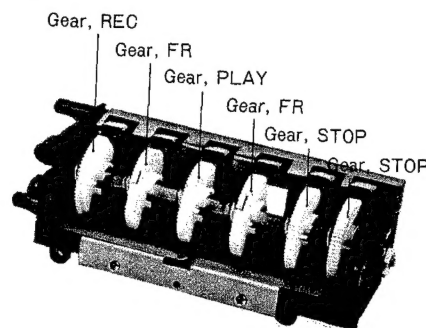

Fig. 11
- 1) Stretch out the mechanism frame a to the left and right, remove the axis (gear stopper), and replace it. (See figure 11)